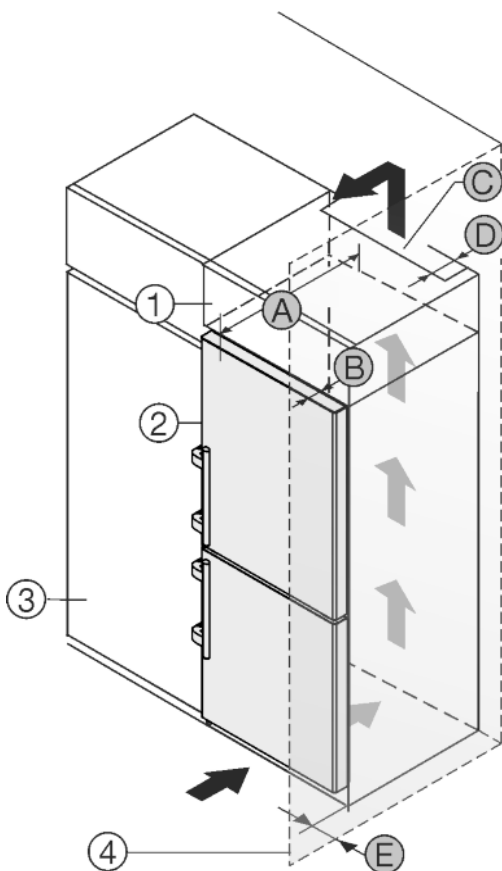

Fig. 25
The appliance can be built into kitchen units. A top cupboard Fig. 25 (2) can be added above the appliance in order to bring the appliance Fig. 25 (1) up to the height of the fitted kitchen units.
The appliance can be installed right next to the kitchen cabinet Fig. 25 (3). The appliance must stick out by the depth Fig. 25 (B) from the front of the cabinet so that the doors can be opened fully. The appliance may protrude further depending on the depth of the kitchen cabinets and whether wall spacers are used.
- There must be a ventilation shaft with the depth Fig. 25 (D) at the back of the top cupboard over the entire width of the cupboard.
- The ventilation shaft Fig. 25 (C) must be observed under the ceiling.
If the appliance is installed with the hinges next to a wall Fig. 25 (4) the distance Fig. 25 (E) between the appliance and the wall must be observed. This is how far the handle protrudes when the door is open.